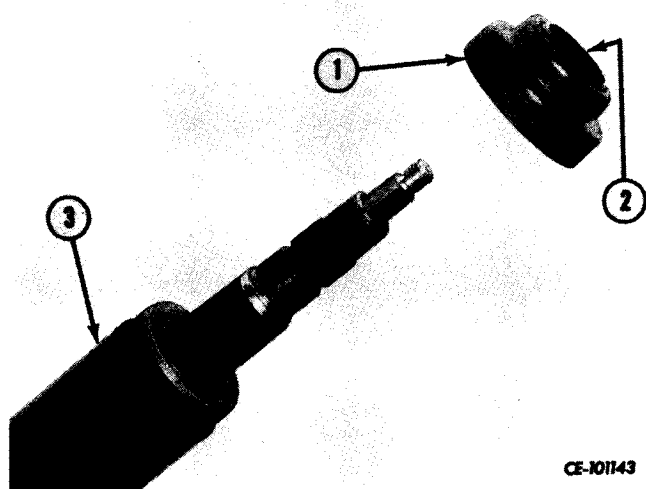

Figure 8-19
Using a plastic or rawhide mallet against lower end of intermediate shaft (2, Fig. 8-18) drive shaft up until dust cap (1, Fig. 8-19) separates from column jacket (3). Scraper in bore of dust cap may be pried out if replacement is required.
If removed, install new scraper (2, Fig. 8-19) in dust cover (1) using a grease resistant adhesive. Position cover on jacket (1) and using a suitable sleeve drive cover down on jacket until it bottoms.